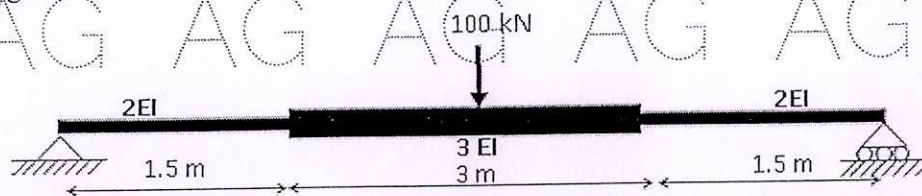

Figure: 7
9. Using conjugate beam method, determine the deflection at the mid-span and slopes at the supports of a beam due to the action of a concentrated load at its mid-span as shown in Figure 7. [10]